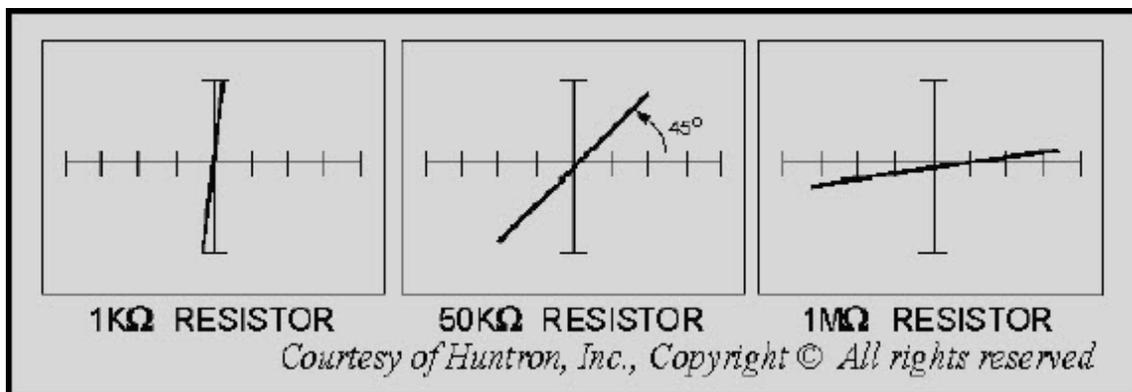

Figure 5-33 Effects of resistance on the rotation angle in high range
**HIGH RANGE** - The high range is designed to test resistance values between  $3\text{K}\Omega$  and  $1\text{M}\Omega$ . Figure 5-33 shows the signatures that would be displayed for a  $3\text{K}\Omega$  resistor, a  $50\text{K}\Omega$  resistor, and a  $1\text{M}\Omega$  resistor using the high range. Resistors that are smaller than  $3\text{K}\Omega$  will appear to be almost a vertical line. A  $50\text{K}\Omega$  resistor will cause a change in the angle of rotation of  $45^\circ$ , whereas the display for a  $1\text{M}\Omega$  resistor shows only a slight rotation that is very close to a horizontal line. Resistance values higher than  $1\text{M}\Omega$  will produce such a small rotation that it appears to be a horizontal line.